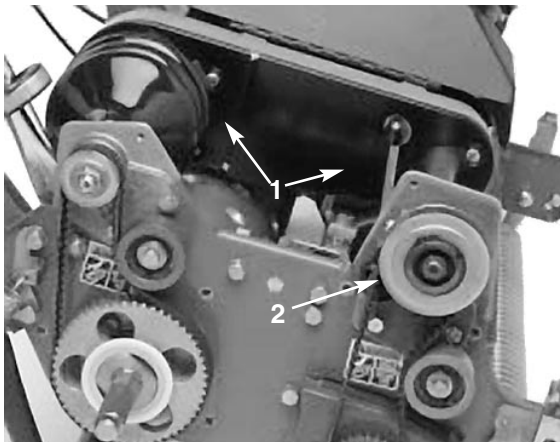

Figure 34
3. Remove the capscrews; securing the front and rear sections of the differential cover to differential housing and slide the cover sections away to expose the belt (Fig. 34).
6. Remove the (2) capscrews and locknuts securing the front clutch housing to the side plate (Fig. 34). Rotate the housing 180°, so the bottom of housing points upward.
7. Remove (2) capscrews and locknuts securing the right rear bearing housing to the side plate (Fig. 34). Rotate the housing 180°, so the bottom of the housing points upward.